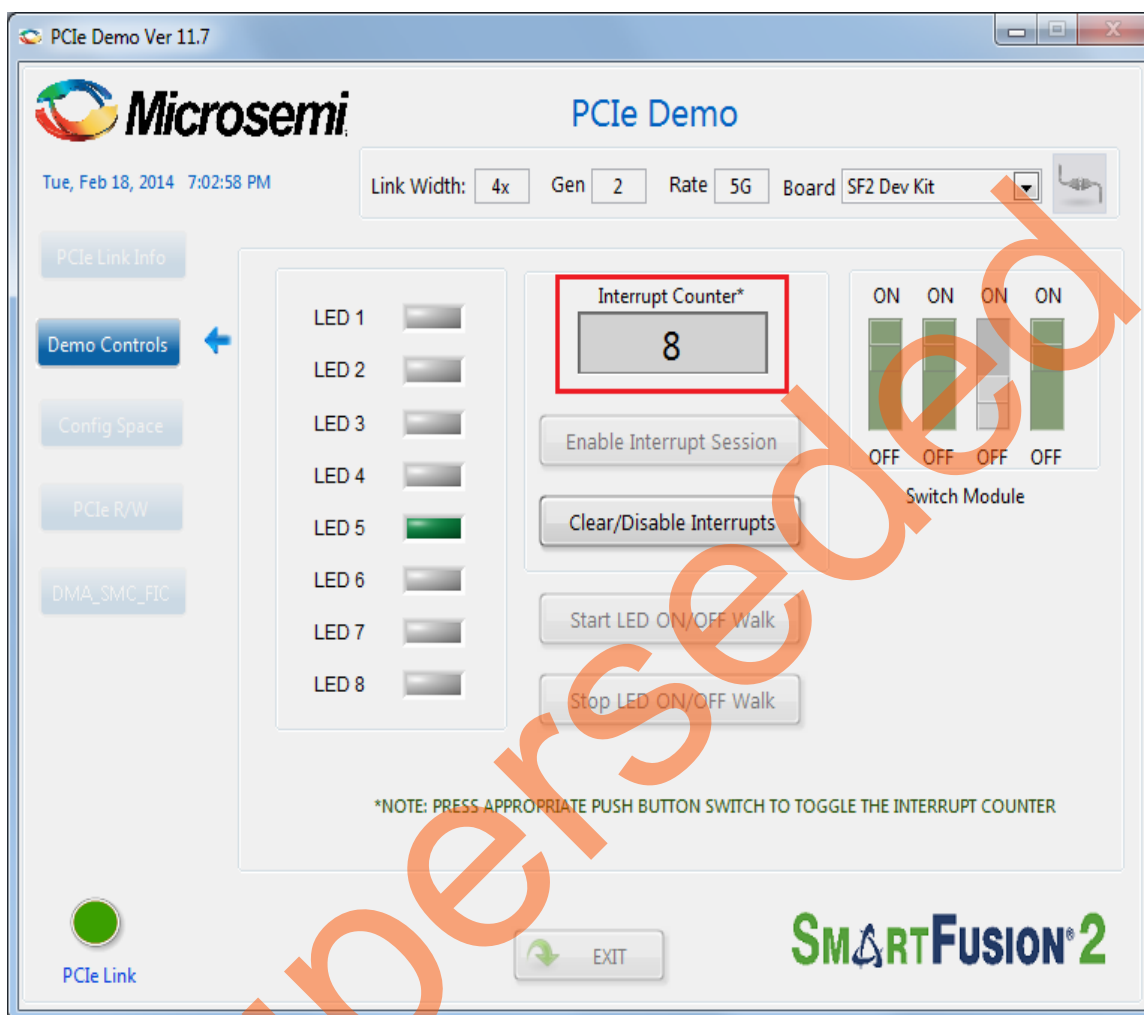

Figure 21 • Interrupt Counter Field in PCIe_Demo Application
11. Press the push button, SW3 on the SmartFusion2 Development Kit board. Observe the interrupt count on the **Interrupt Counter** field in the PCIe_Demo application. Figure 21 shows the **Interrupt Counter** field in PCIe_Demo application.